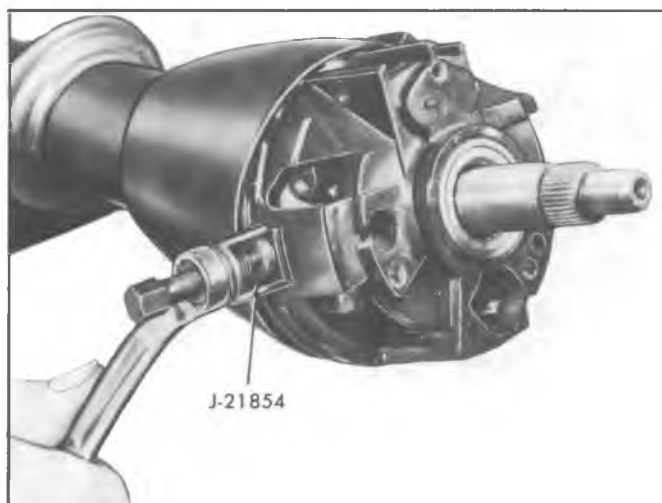

Fig. 23—Removing Bearing Housing Pivot Pin
7. Remove the two bearing housing pivot pins using Tool J-21854 (fig. 23).